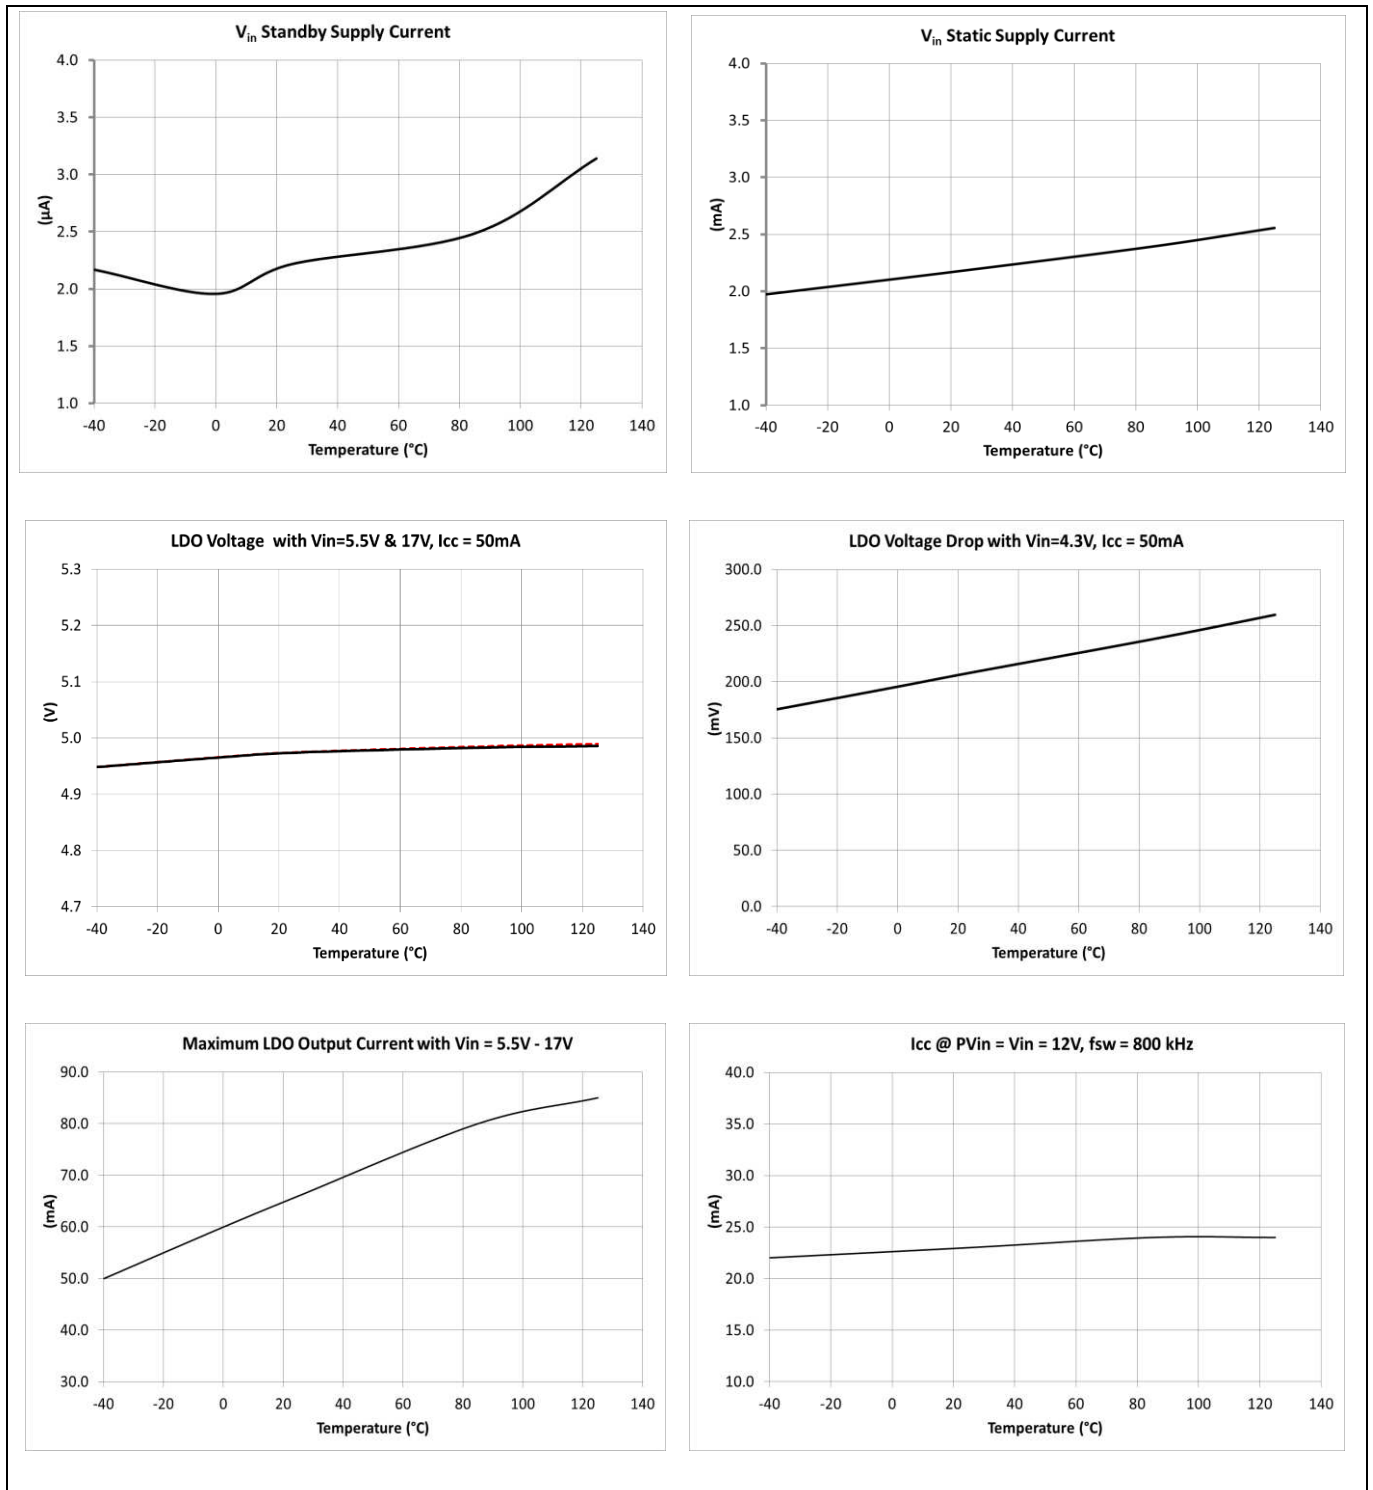

Figure 6 Typical operating characteristics (set 1 of 3)
- When using the internal LDO with $5.5\text{ V} \leq V_{in} \leq 17\text{ V}$, it is recommended to check the required VCC bias current for the operation above 1.6 MHz, to ensure that it does not exceed the LDO output current capability as shown in Figure 6. With the increase of f_{sw} , the resulting I_{CC} is also increased mainly due to the increase of the gate charge that is proportional to f_{sw} . In Figure 6, the typical I_{CC} at $PV_{in} = V_{in} = 12\text{ V}$ and $f_{sw} = 800\text{ kHz}$ has been provided, which can be used to estimate the I_{CC} at other f_{sw} .